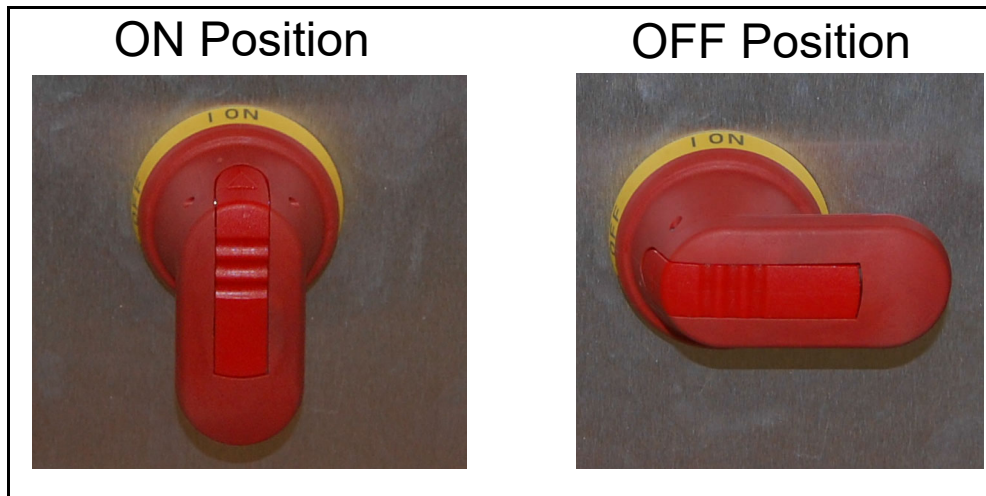

Figure 2-15: Main Disconnect Switch Handle
7. Turn the red handle of the main disconnect switch to the OFF position (see Figure 2-15).